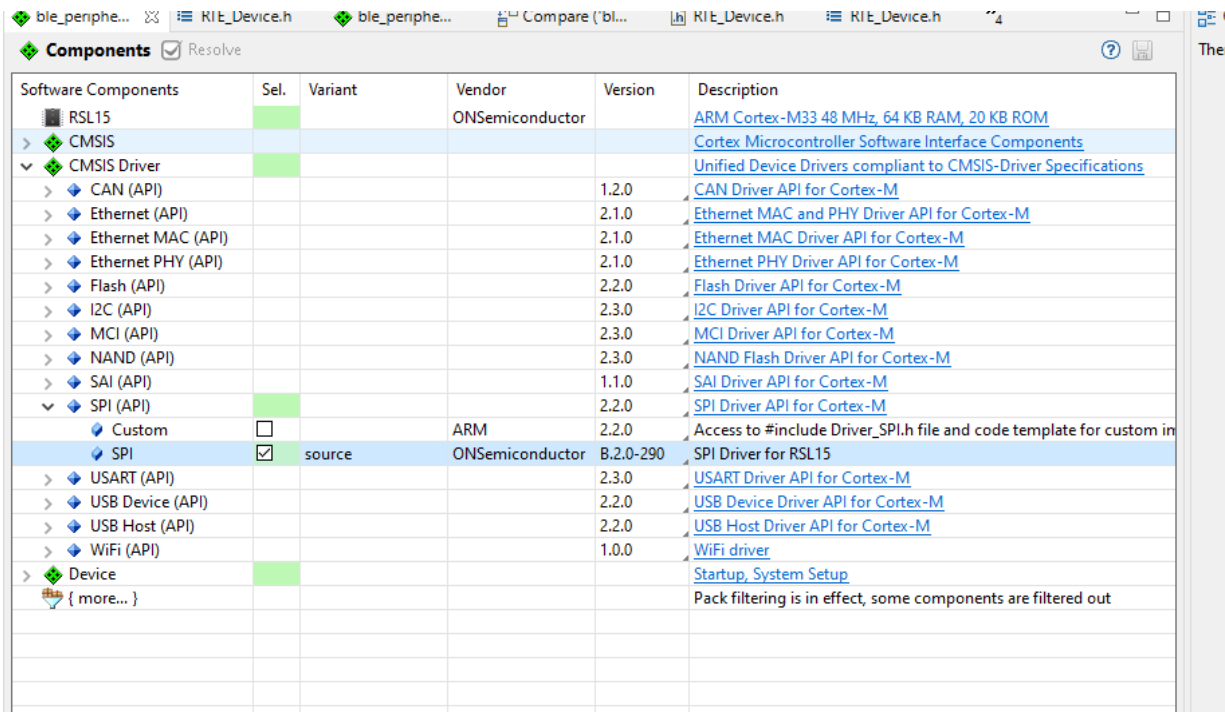

Figure 10. Selecting the Components
2. Select the desired components (for example, SPI), as shown in the figure "Selecting the Components" (Figure 10). Save the changes.